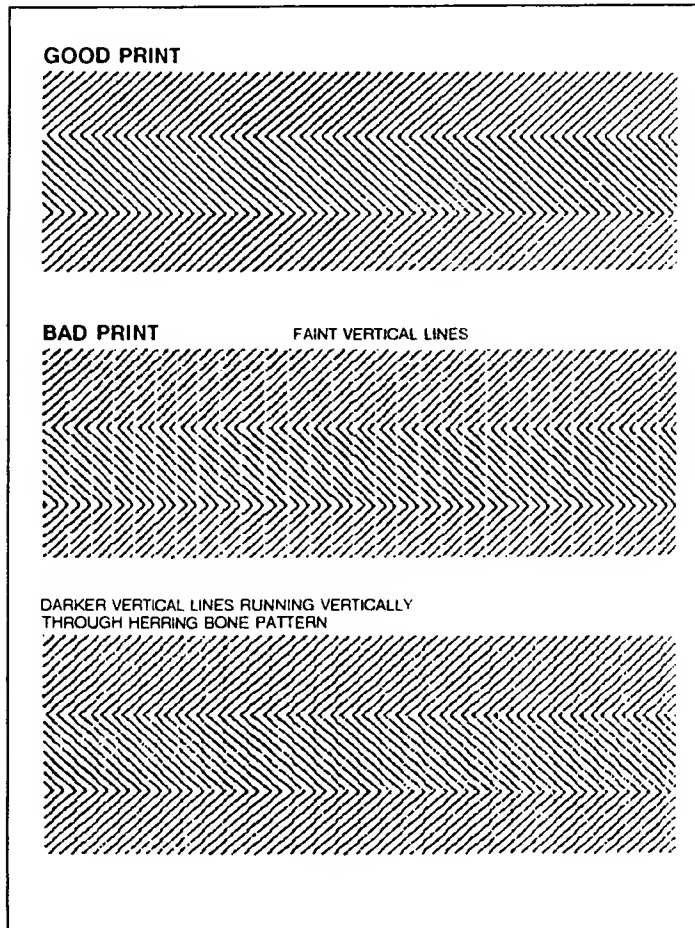

Figure 5-9. Subtest "LD Graphic" Printout
To determine if the turnaround time is adjusted correctly, observe the dot pattern created by diagnostic subtest LD Graphic Test (see Figure 5-9) or the first page of the Automatic Alignment Printout.
If it is not adjusted correctly either faint white lines or slightly darker lines can be seen running vertically through the herring bone pattern (see Figure 5-9).
- c. Check the results of the adjustment. To check the adjustment perform Subtest LD Graphic Test (or Blackout test). If faint vertical lines, either light or dark, can still be seen running through the pattern (see Figure 5-9), return to step "b" and either increase the parameter value or vary the value in the opposite direction until the lines disappear.